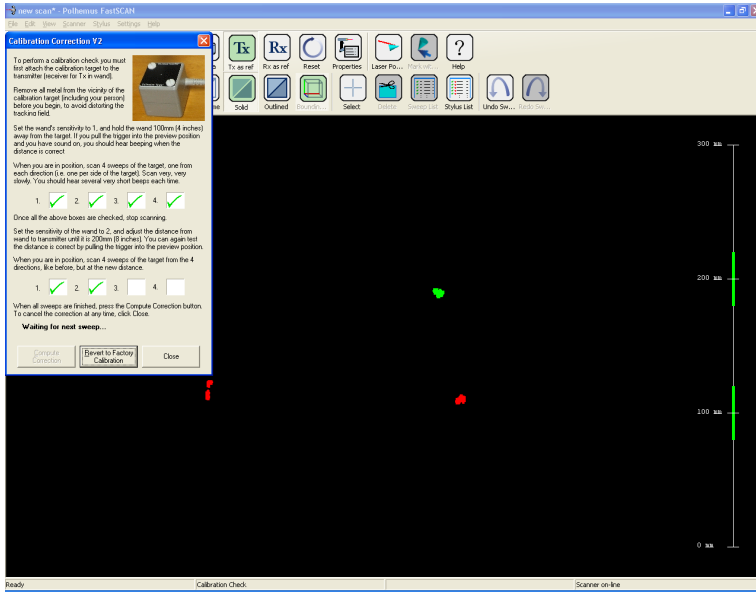

Figure 30: Three of the four calibration spot clusters are visible (for the *Scorpion™*) and the **Calibration Correction** dialog box.
5. Click on **Scanner/Calibration Correction....** The background color of the *FastSCAN*TM window will change to black and the **Calibration Correction** dialog box will appear (Figure 30).
13. After making all eight measurements there should be two clusters of points in the *FastSCAN*TM window (Figure 30): one representing the data collected at 100 mm and the other the data collected at 200 mm. In each cluster, there should be four red spots (Cobra) or four pairs of red and green spots (Scorpion).